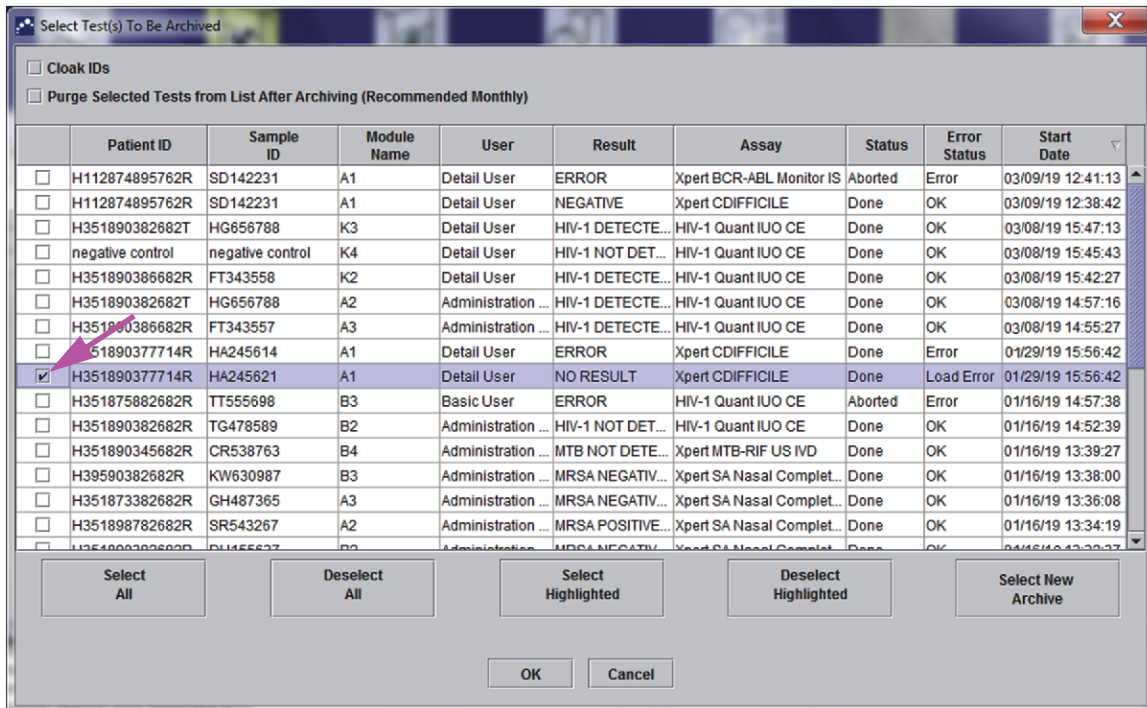

Figure 5-60. Select Test(s) To Be Archived Dialog Box
1. In the GeneXpert Dx System window, on the **Data Management** menu, click **Archive Test**. The Select Test(s) To Be Archived dialog box appears. See Figure 5-60.
2. Select the test(s) you want to archive. Click the check box that is adjacent to each test you want to archive. See Figure 5-60. You can select the individual tests one-by-one, or select a large number of tests by clicking one of the following buttons at the bottom of the Select Tests To Be Archived screen:
When the **Cloak IDs** check box, located in the top left area of the Select Test(s) To Be Archived dialog box, (see Figure 5-60) is checked, all information about the sample ID is masked.